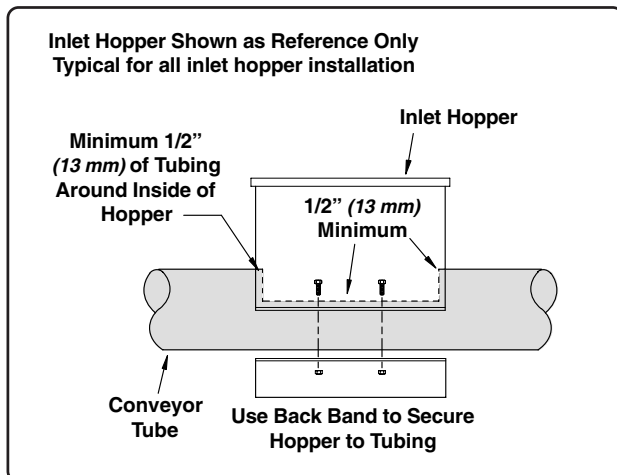

Fig. 14
**For inspection port with safety screen**, place the hopper on top of the conveyor tube and mark the conveyor tube from the inside of the hopper, leaving a minimum of 1/2" (13 mm) of tubing around all four sides of the hopper (See Fig. 14 on Page 32).